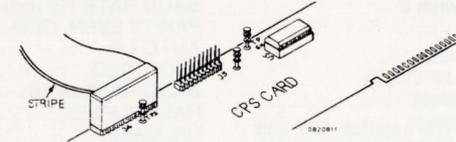

Figure 2-6 Serial Cable Hookup
- a. Connect the MCI01-00299-XX cable between the CPS Card J4 connector and the Diablo™ printer as shown in Figure 2-6.
1. a. Connect the MCI01-00266-01 cable between the CPS Card J4 connector and the Hazeltine™ terminal as shown in Figure 2-6.